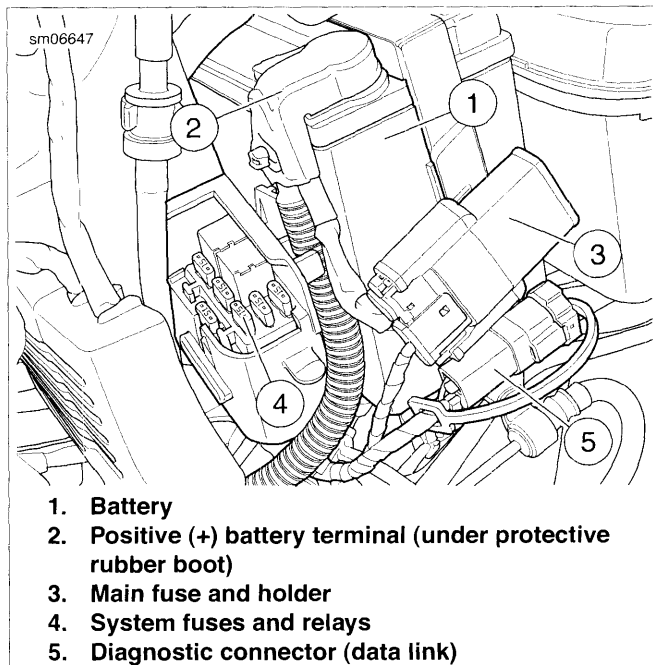

Figure 2-134. Main Fuse and Battery Location: All Models
See Figure 2-134. The left side cover provides access to the battery (1), fuses (3, 4) and diagnostic electrical connector (5). No tools are required to open or close the cover.